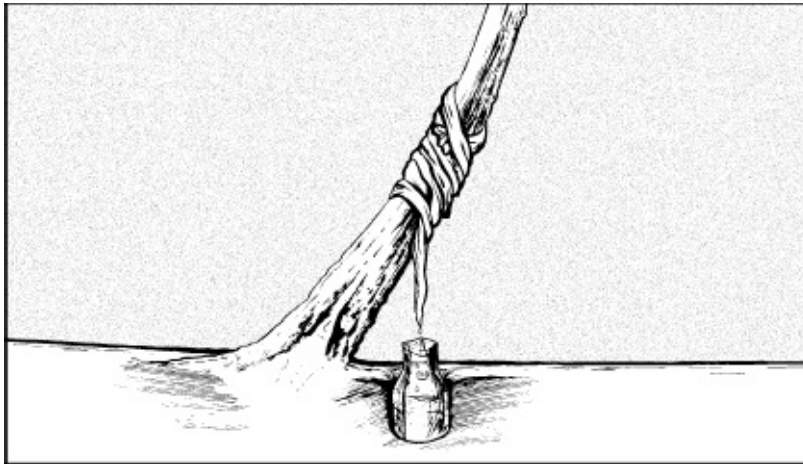

Figure 7-4. Leaning tree
- Leaning Tree. Cloth absorbs rain running down tree and drips into container (**Figure 7-4**).